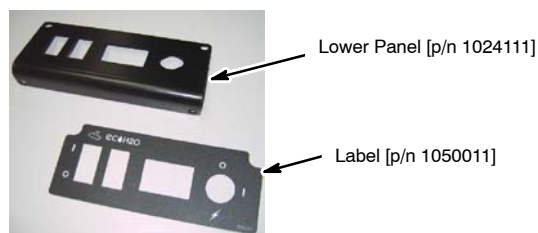

Fig. 20
5. Remove the components from the lower panel (*take note of wire connections before removing*). Using new lower panel [p/n 1024111] and label [p/n 1050011], re-install components (Figure 20).